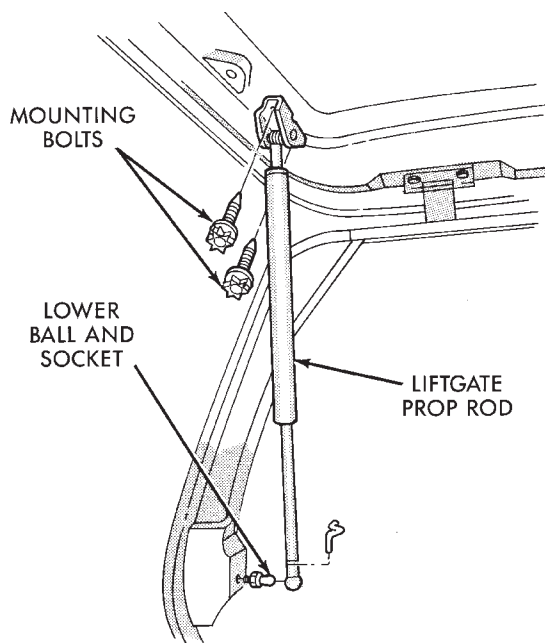

Fig. 13 Liftgate Prop Rod
- (7) Disconnect wiring to cargo lamp.
- (8) Remove retaining clip at liftgate prop rod lower mount and detach rod (Fig. 13).
- (2) Remove prop rod lower retaining clip and detach prop rod from mount (Fig. 13).
- (2) Snap prop rod onto mount and install retaining clip (Fig. 13).